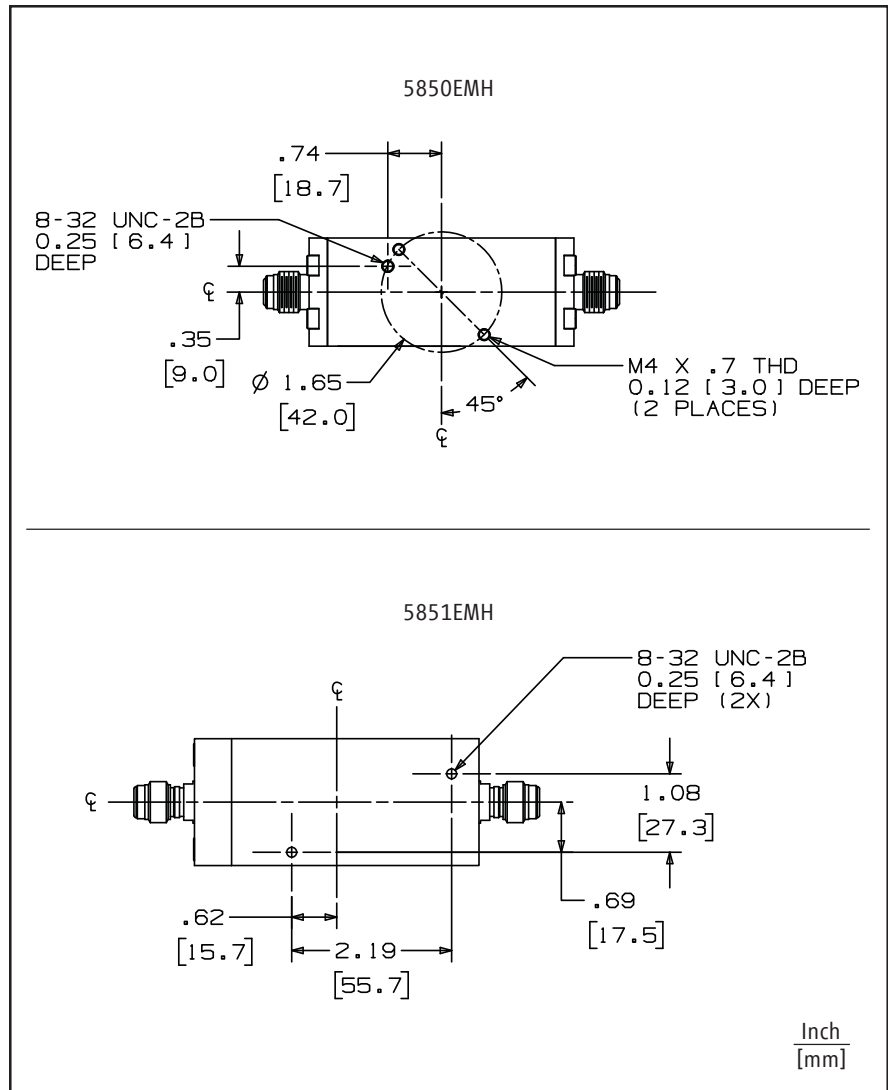

Figure 2-1 MFC Mounting Hole Positions for Models 5850EMH & 5851EMH
- f. Match the mounting holes on the bottom of the flow controller with those on the mounting surface. Using one #8-32 screw or two M4 screws, mount the flow controller. See Figure 2-1 for mounting hole positions.